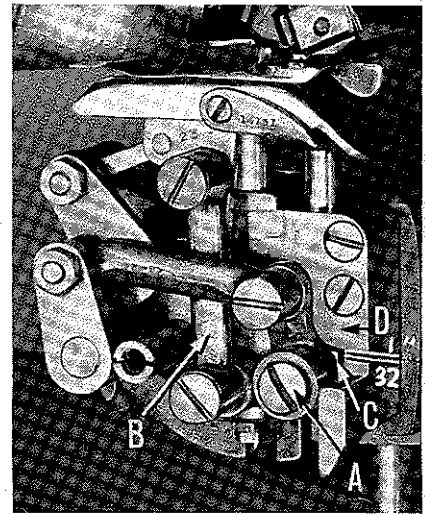

Fig. 9
To make this adjustment, loosen screw (A, Fig. 9) and, with the right hand, hold the feed plate against the presser foot. Then, by holding the feed link (B) with the left hand, push down the feed point until there is 1/32 inch clearance between the block (C) and the plunger bearing block (D). Then, re-tighten screw (A).